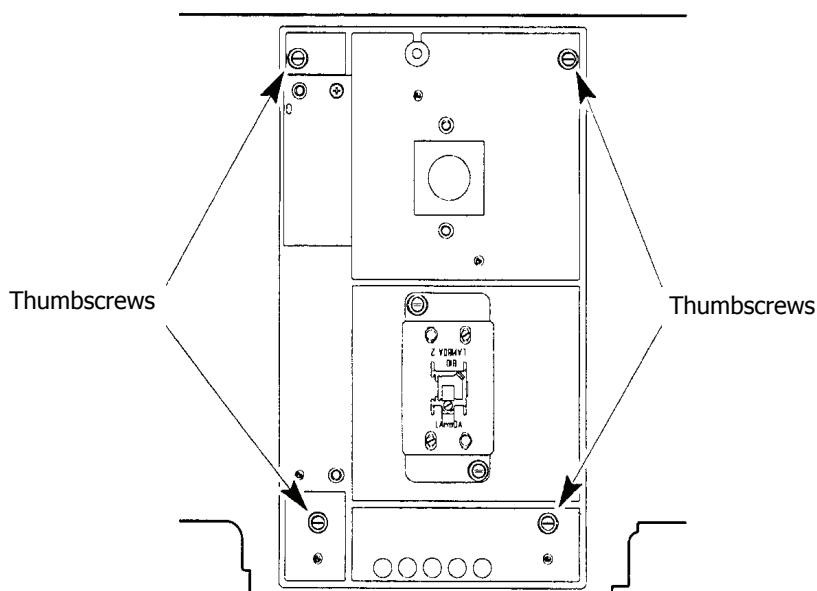

Figure 16 Four thumbscrews on the sample compartment baseplate
1. With the sample compartment cover open or removed, undo the four thumbscrews shown in Figure 16.